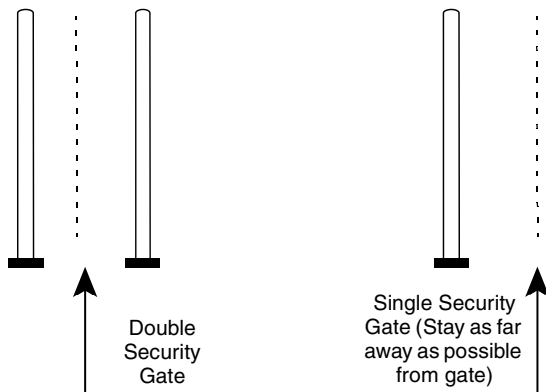

Figure 5. Approaching security gates.
2. If patients must pass through the security device, they should approach the center of the device and walk normally (Figure 5).